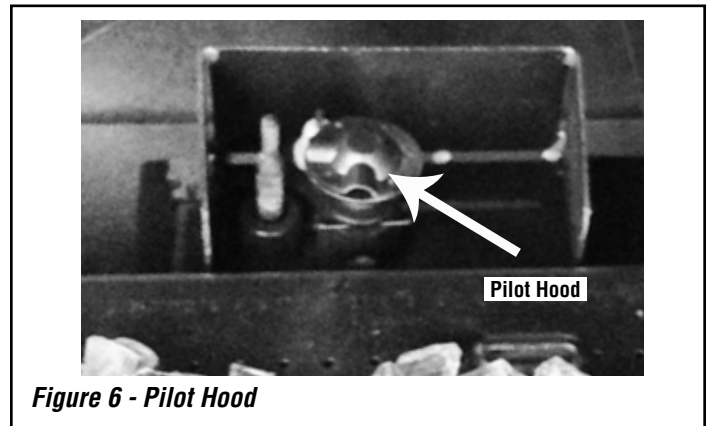

Figure 6 - Pilot Hood
Step 8. Reinstall pilot hood. See *Figure 6*.
Step 14. Adjust the burner air shutter per instructions in the Installation and Operation manuals and *Table 2 and Figures 6 and 7*.